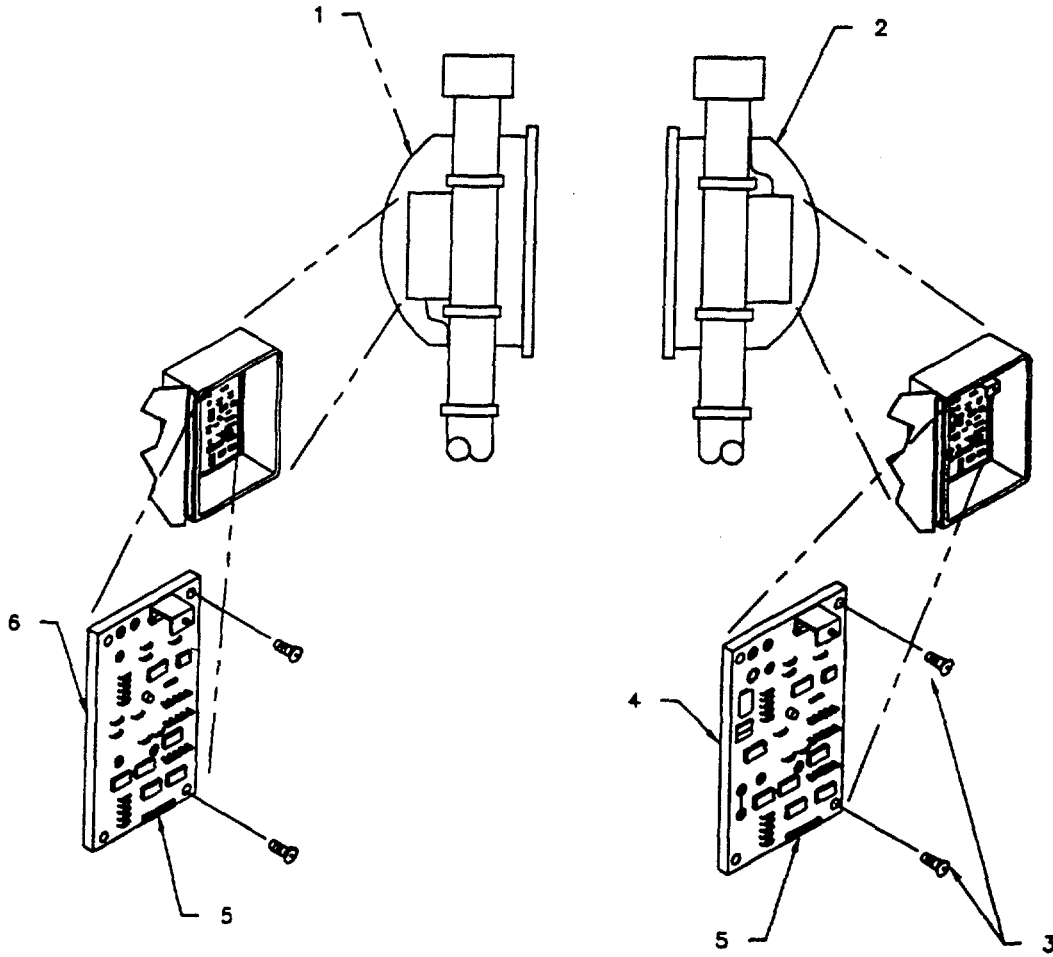

Figure 3-64. Removal and Replacement of Exterior Microwave Motion Sensor PWA
**3-116. REPLACE EXTERIOR MICROWAVE MOTION SENSOR, PWA. (Figure 3-64).**